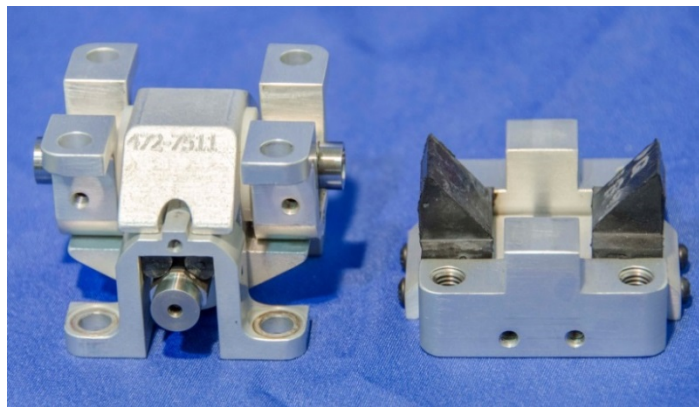
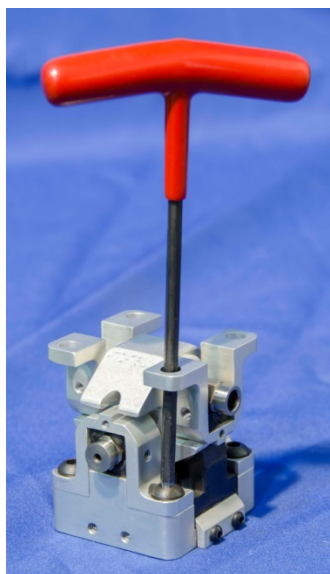

Figure 12-37. Center block shaft assembly and torque bottom base
Figure 12-38. Install center block shaft assembly to torque bottom base
- 12.2.2.21 Secure the center block shaft assembly to the torque bottom base with four M6 x 1 x 12 BHCS (Figure 12-37 and Figure 12-38).